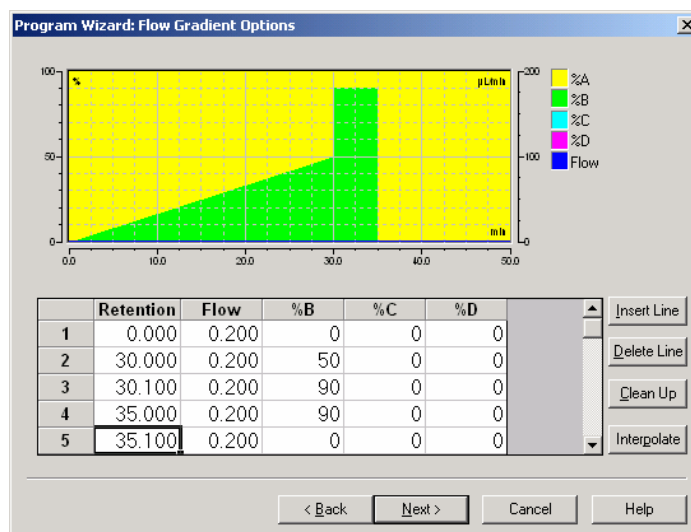

FIGURE 4-10 The Flow Gradient Options Box
f) Define the gradient in the *Flow Gradient Options* box (FIGURE 4-10).